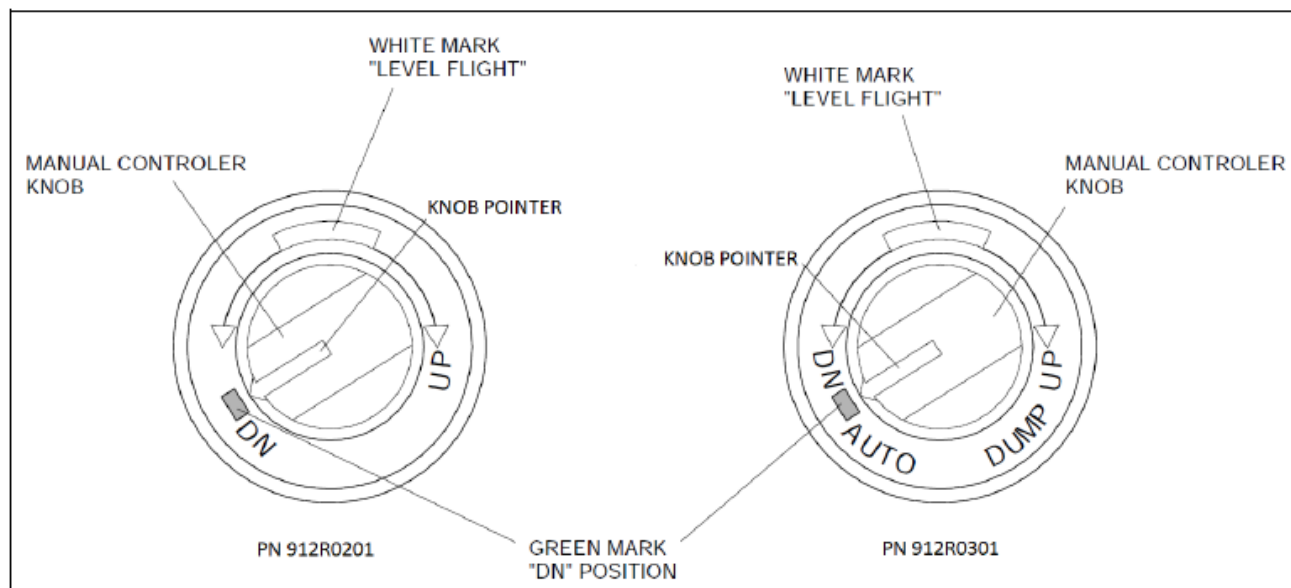

Figure 1
- 2- Do a check of the manual controller knob (\*PNs 912R0201 or 912R0301, see Figure 1 below), as follows: